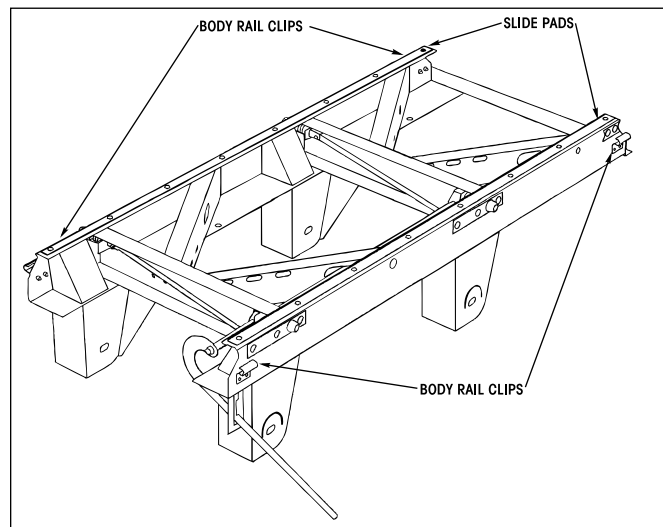

Figure 33. Body rail clips
- Using an open-end wrench or ratcheting wrench and socket, loosen all of the fasteners (qty. 8) that secure four body rail clips (Figure 33).